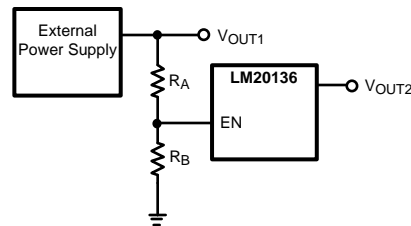

Figure 34. Sequencing LM20136 with Precision Enable
The precision enable(EN) and power good(PGOOD) pins of the LM20136 can be used to address many sequencing requirements. The turn-on of the LM20136 can be controlled with the precision enable pin by using two external resistors as shown in Figure 34